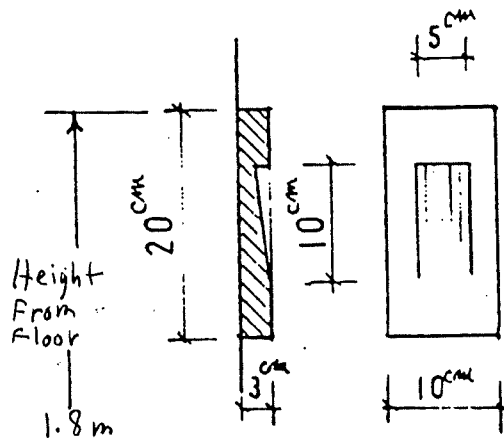

Figure 8 Bow Stringing Block
- a. These areas should have bow stringing blocks, Figure 8, on the walls and places to put equipment.